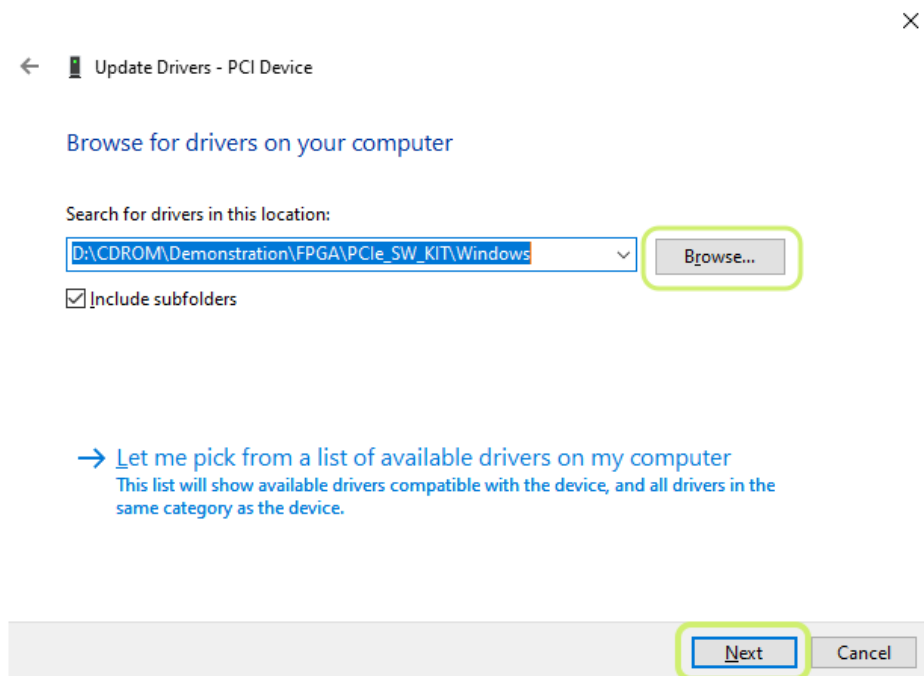

Figure 3-5 Browse for the driver software on your computer
8. In the **Browse for driver software on your computer** dialog, click the **Browse** button to specify the folder where altera_pcie_din_driver.inf is located, as shown in **Figure 3-5**. Click the **Next** button.